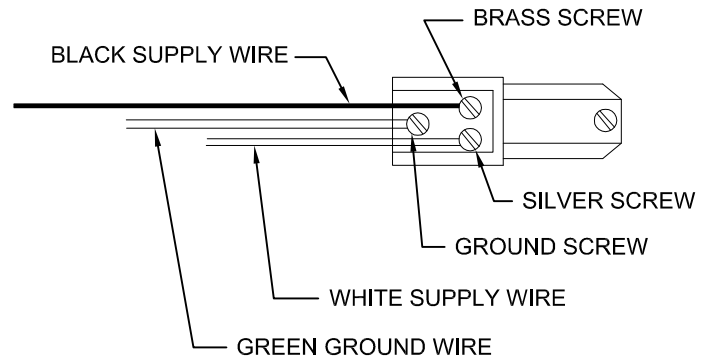

FIGURE 2
- 4 - Connect GROUND WIRE to GROUND SCREW (See Figure 2).
- 5 - Connect WHITE SUPPLY WIRE to POWER LEG terminal with SILVER SCREW. Connect BLACK SUPPLY WIRE to terminal with BRASS SCREW. Tighten SCREWS securely (See Figure 2).